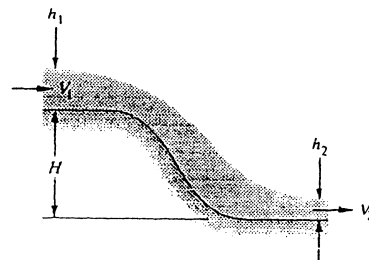

Fig. P3.177
3.177 For the water-channel flow of Fig. P3.177, $h_1 = 1.5$ m, $H = 4$ m, and $V_1 = 3$ m/s. Neglecting losses and assuming uniform flow at sections 1 and 2, find the downstream depth h_2 , and show that *two* realistic solutions are possible.